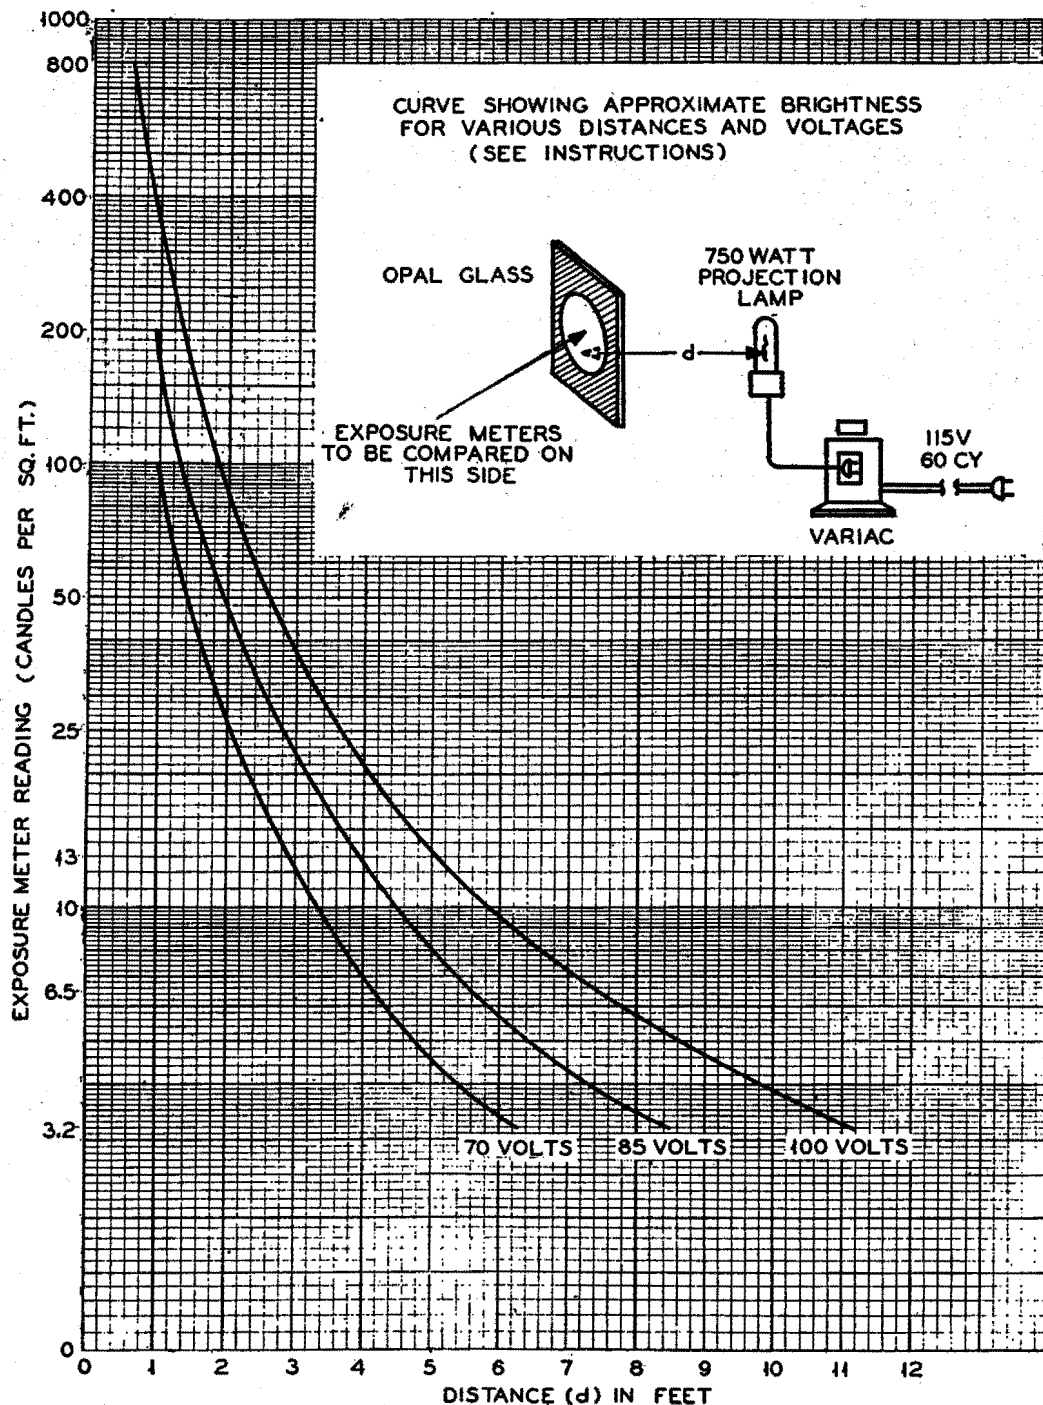

Figure 71. Light values and response curves for exposure meter calibration set up.
g. Connect the variac to a power source and adjust the voltage to a convenient value, as determined from the graph in figure 71.